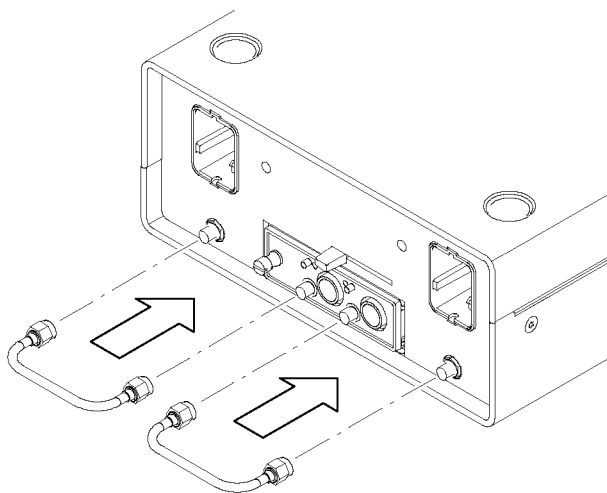

Figure 5: Connecting the sampling module
2. Use the two semi-rigid SMA cables (included with this product) to connect the TekConnect Probe Interface Module to the sampling module. (See Figure 5.) You may need to bend the SMA cables slightly to obtain proper alignment to mate the SMA connectors.